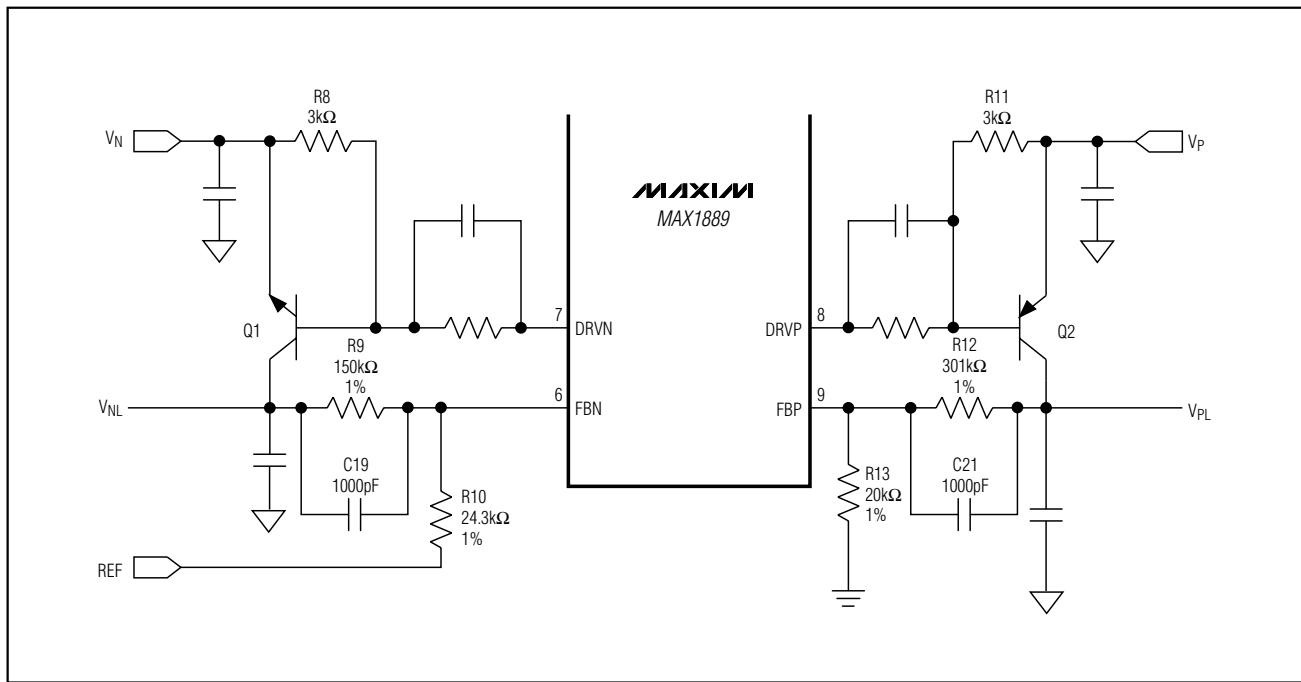

Figure 8. LDO Compensation
- 3) A third pole is set by the linear regulator's feedback resistance and the capacitance (including stray capacitance) between FB\_ and GND (for the positive LDO) and FBN and GND (for the negative LDO) (Figure 8):
A capacitor connected between the output and the feedback node improves the transient response, reduces the noise coupled into the feedback loop, and maintains the correct regulation point (Figure 8).